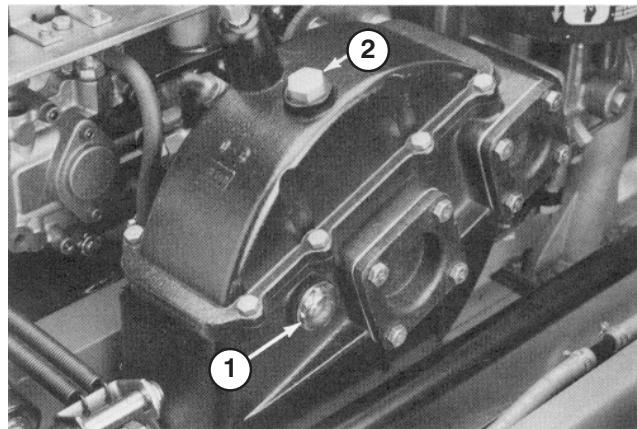

Figure 5
3. Check the level of hydraulic oil on the sight gauge (Fig. 5). The fluid level should be up to the middle of the gauge window.